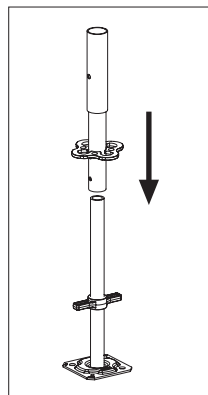
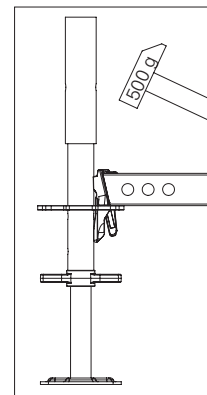

Fig. B3.04
Fig. B3.06
3. Secure wedges on all ledgers using a 500 g hammer. (Fig. B3.04 – Fig. B3.06)